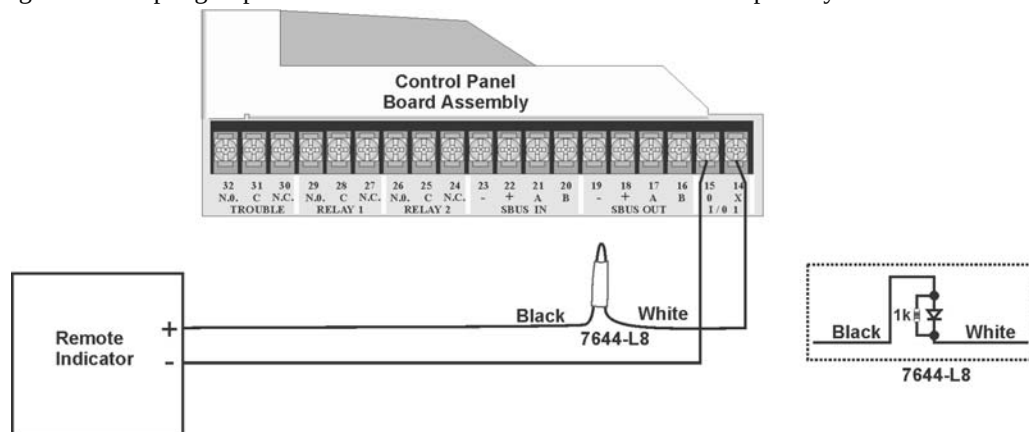

Figure 4-43 Polarity Reversal Connection Using the 7644-L8
- Wired the 7644-L8 to the control panel as shown in Figure 4-43. Do not install an EOL resistor on the terminals of the Flexput circuit used.